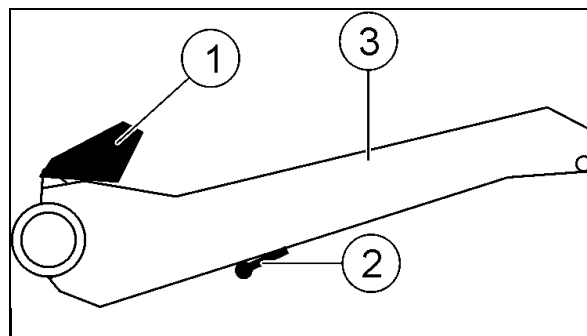

Fig. 123
When opening the protective device (1), the transport support (2) is automatically retracted (Fig. 123).